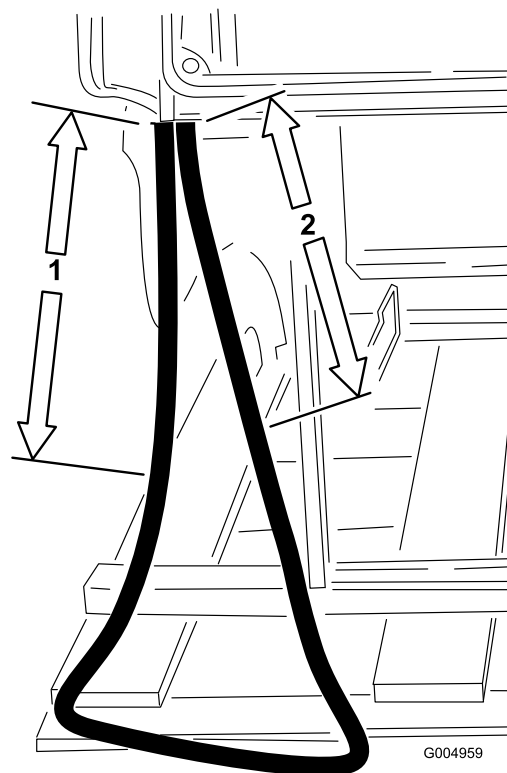

Figure 11
3. Measure down 17 inches (43.1 cm) from where the hose exits the frame, mark the hose and cut the hose at this location (Figure 11).
4. On the other end of the hose, measure down 20 inches (50.8 cm) from where the hose exits the frame, mark the hose and cut the hose at this location (Figure 11). This will be the return hose.